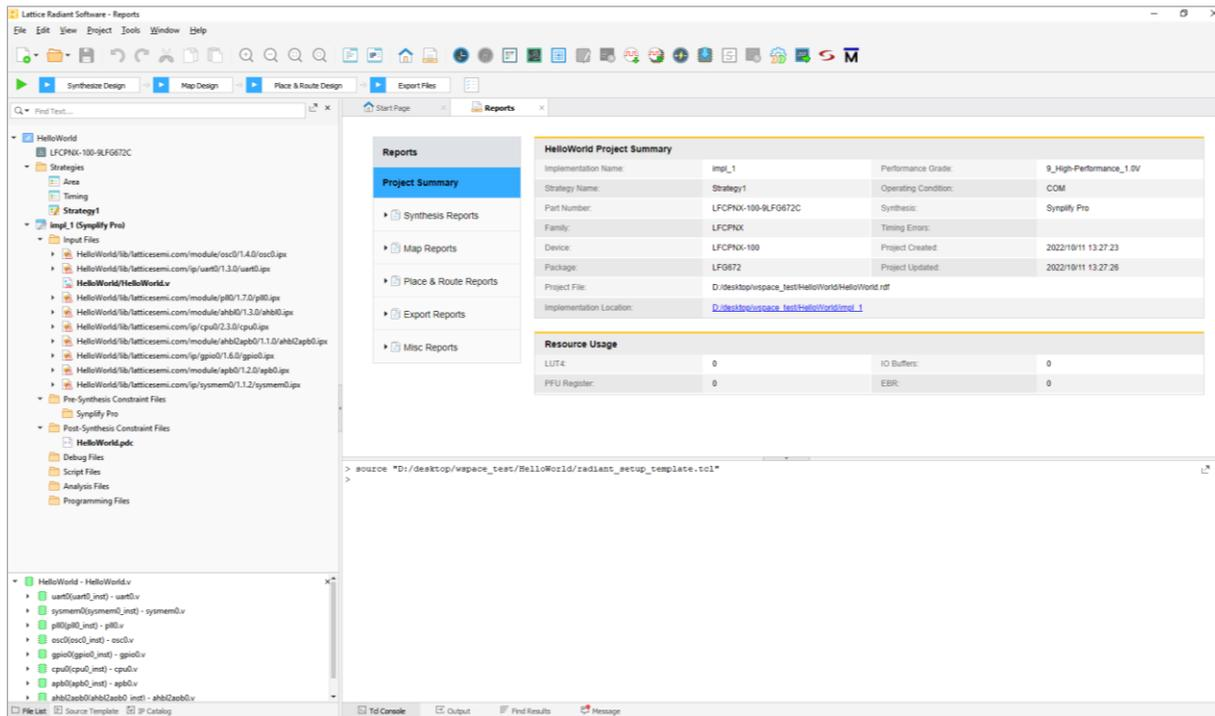

Figure 2.71. Radiant Project
2. Lattice Radiant is launched with a Radiant project generated for SoC at the background (Figure 2.71).